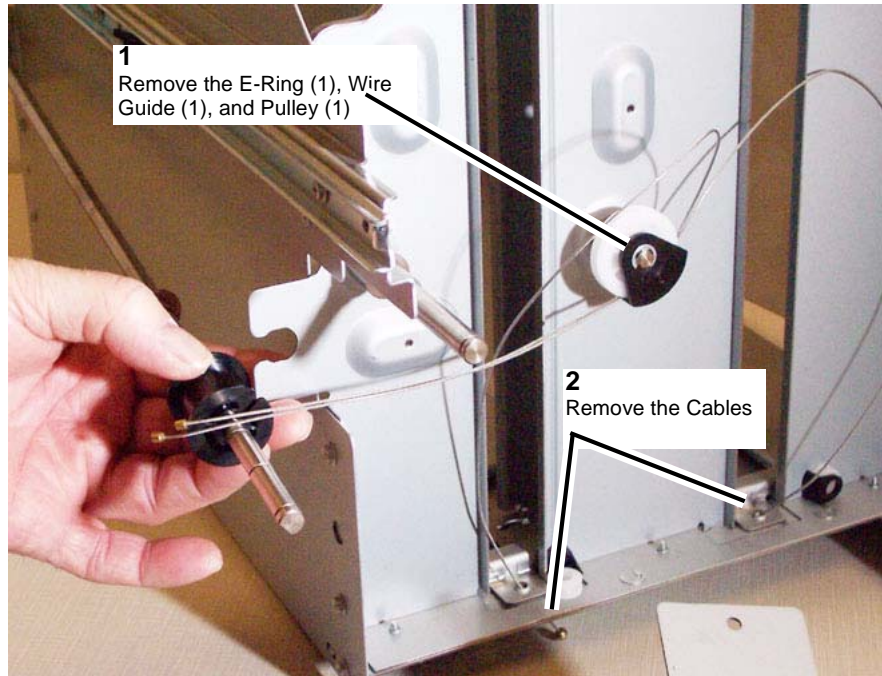
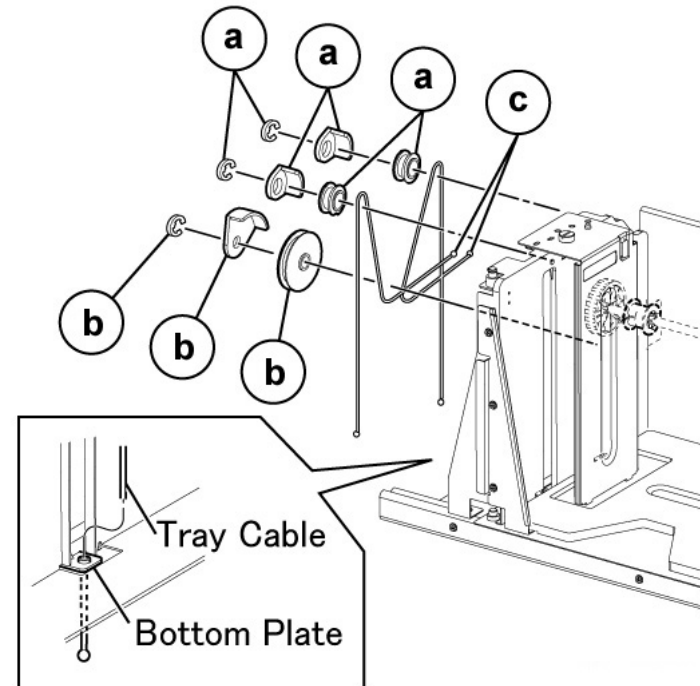

Figure 5 Removing the Rear Tray Cables
Figure 6 Rear Tray Cable details
6. Remove the Rear Tray Cable (Figure 5, Figure 6).